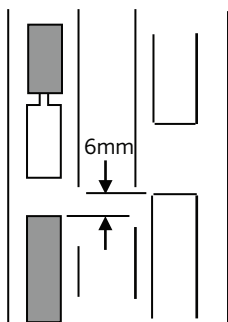

Fig 1.
- Deadbolt (PVCu only) should be approximately 6mm below the top of the keep deadbolt aperture – **Fig 1.**